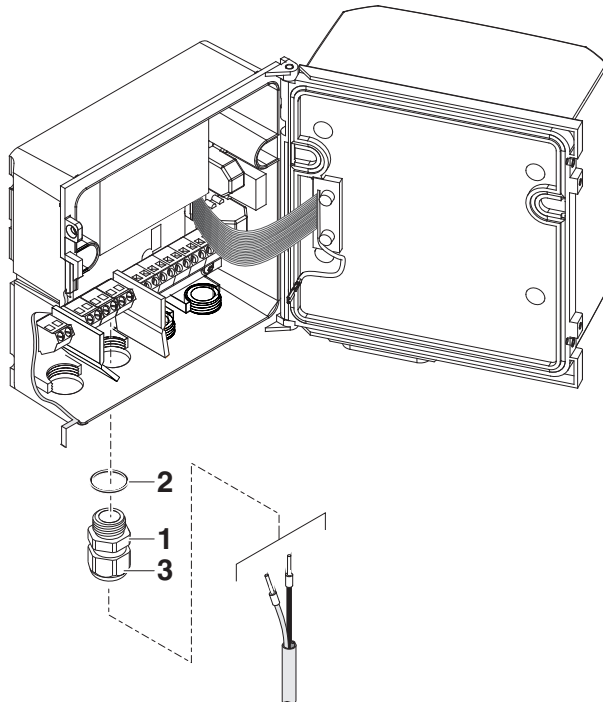

figure 3-18 Inserting lines
- 2 Screw a cable gland (pos. 1 in figure 3-18) with the sealing ring (pos. 2) into the enclosure below the respective connections.
- 3 Loosen the coupling ring (pos. 3).
- 6 Tighten the coupling ring (pos. 3).